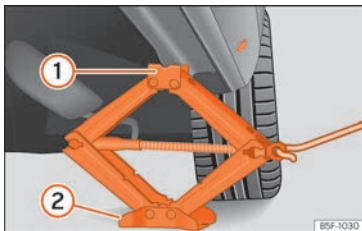

Fig. 41 Cross member: positioning the jack on the vehicle.
- Turn the jack* crank handle, located below the strut support point, to raise it until the tab ① »» Fig. 41 is below the housing provided.
- Align the jack* so that tab ① “grips” onto the housing provided on the strut and the mobile base ② is resting on the ground. The base plate ② should fall vertically with respect to the support point ①.